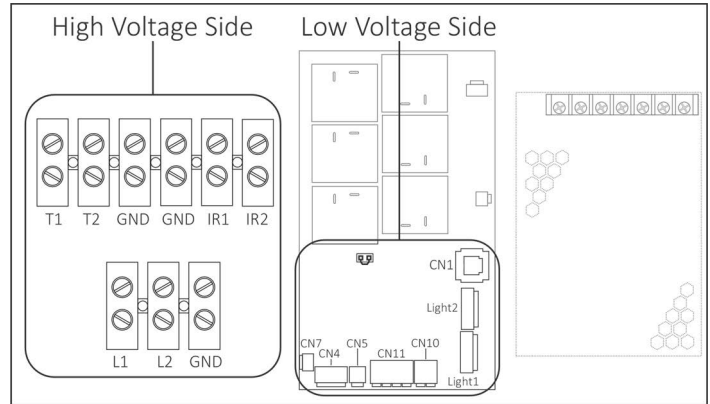

Figure 9. CB Box Interior
29. The sauna room wires and cables are labeled according to the terminals they connect to inside the CB box. See Figure 9.